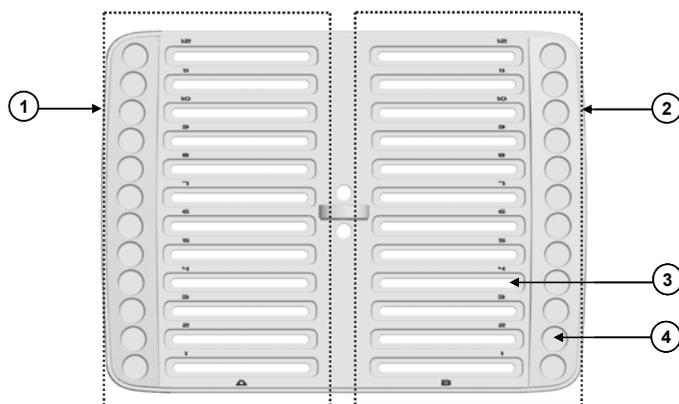

Figure 3: Thermostated block
- (1) Incubation area
- (2) Incubation area
- (3) Positions for *DG Gel* cards
- (4) Positions for sample tubes
As shown in Figure 3, the Thermostated block is divided into two Incubation areas (Ref. (1) and (2)). Each one of them has capacity for a maximum of 12 *DG Gel* cards (Ref. (3)) and 12 sample tubes that are aligned with the cards (Ref. (4)).